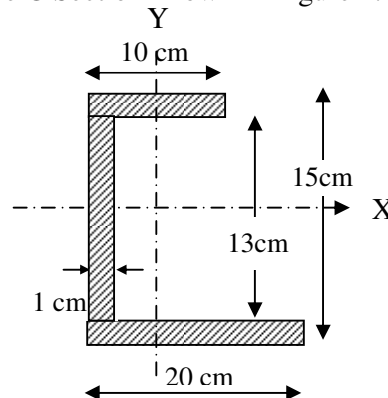

Figure 2
4. Find the Center of gravity of the C Section Shown in Figure 2. With reference to give axes